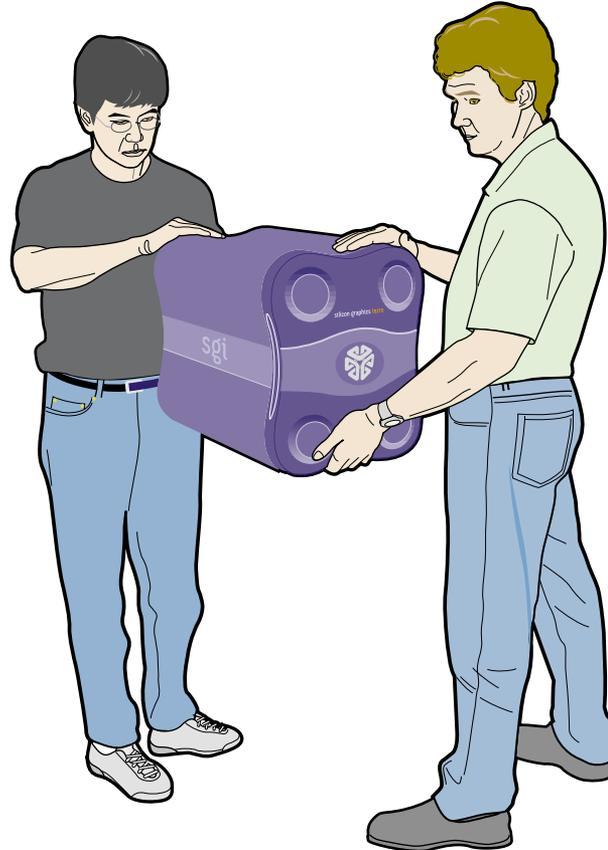

Figure 3-2 Moving the Workstation
3. Move the workstation to a sturdy, flat surface. Always use two people to move the workstation (see Figure 3-2).